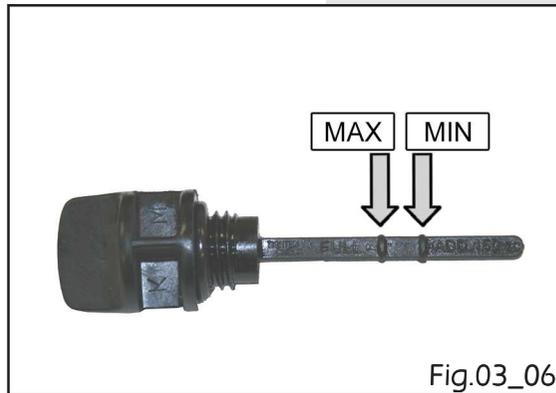

Fig.03_06
- Check that the oil level is between the «MIN» and «MAX» marks (see figure 03_06).